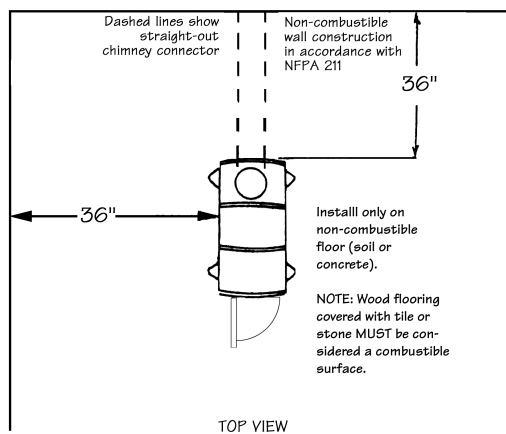

Fig. 3 – Floor Protector Clearances
4. **WARNING: RISK OF FIRE.** DO NOT store wood, kindling, flammable liquids or other combustible materials in the vicinity of the appliance. Do not place fuel, furniture or any other objects within the clearance area. Refer to reference figures 3–5 in this manual.
3. After observing the clearances to combustible materials (figure 3 – 5), locate your stove accordingly (figure 3) and carefully place the stove in your selected location. Install stove pipe, elbows, and thimble as required, utilizing either a recently cleaned and inspected, code-approved, 6" masonry chimney with flue liner or a 6" i.d., maximum 64 square inch, listed chimney.
4. Use 6" round black stove pipe. **DO NOT USE GALVANIZED PIPE.** Secure pipe sections with three (3) sheet metal screws in each stove pipe and/or elbow joint to firmly hold the pipe sections together. Screws should be spaced no more than a maximum of 3"/76mm apart.
5. Recheck clearances from the stove, connector stove pipe, and corner clearances using the illustrations (figure 3 – 5) and your local building codes or fire protection ordinances.